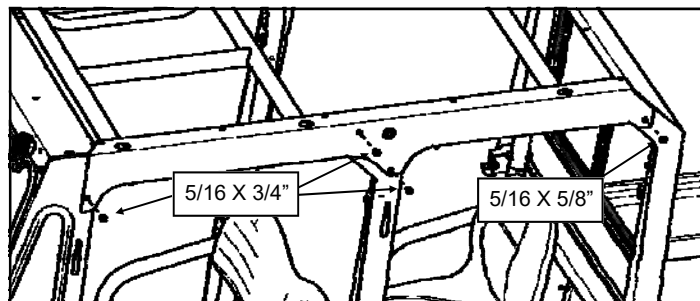

Figure 7.1: Side headers (left shown)
- (1) 5/16-18 Flanged nut
Place the left side header against the A-pillar and rear panel, and secure to the threaded inserts in the A-pillar and B-pillar with (3) 5/16 x 3/4" screws, and to the rear panel with one (1) 5/16 x 5/8" screw and nut. **(Figure 7.1).**